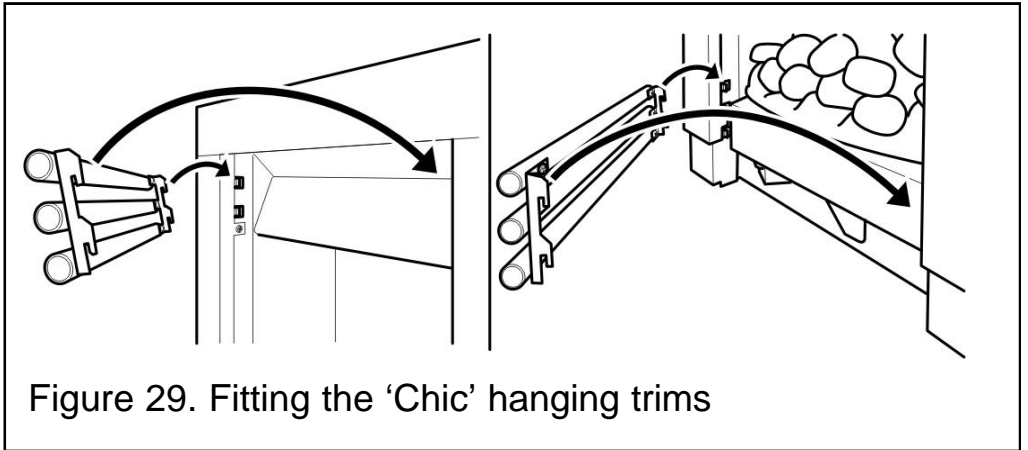

Figure 29. Fitting the 'Chic' hanging trims
6. **Chic model only** - Supplied in the fascia pack are two tubular trim sets. Hang one set at the top of the fascia and the other at the bottom (See figure 29).